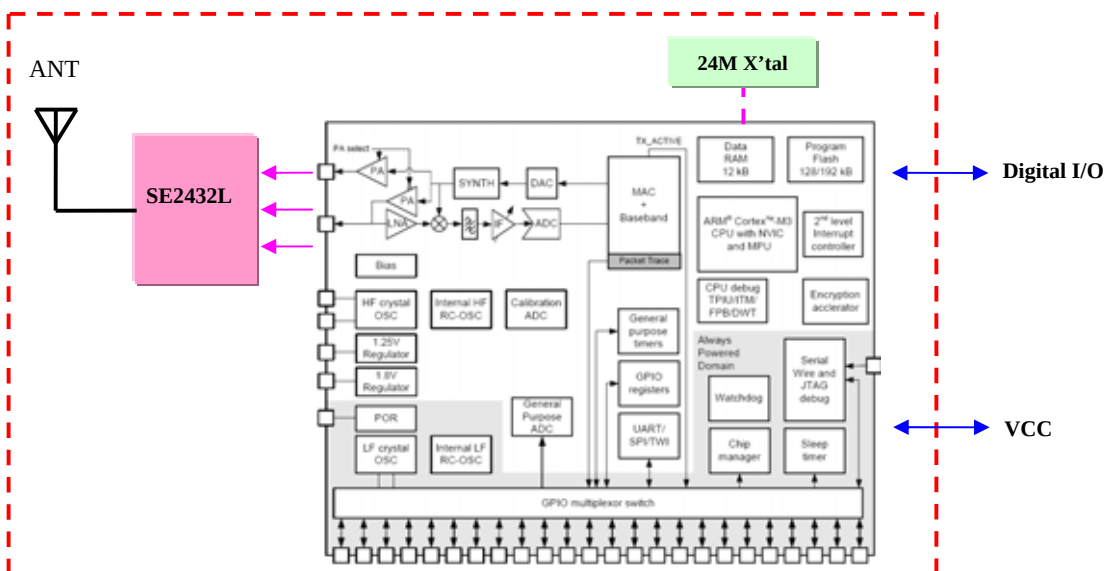

Figure 3-2: DFZM-E721x Block Diagram
- o The high power module option has a capability of +18.5dBm output power at the antenna (see Figure 3-2).